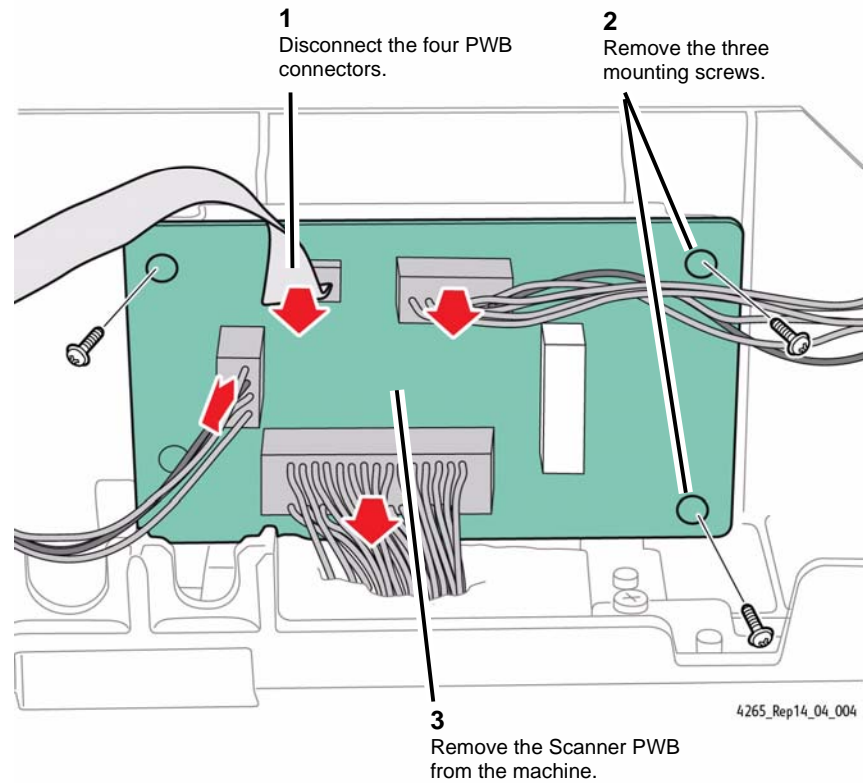

Figure 4 Removing the Scanner PWB
7. Remove the scanner PWB (Figure 4).